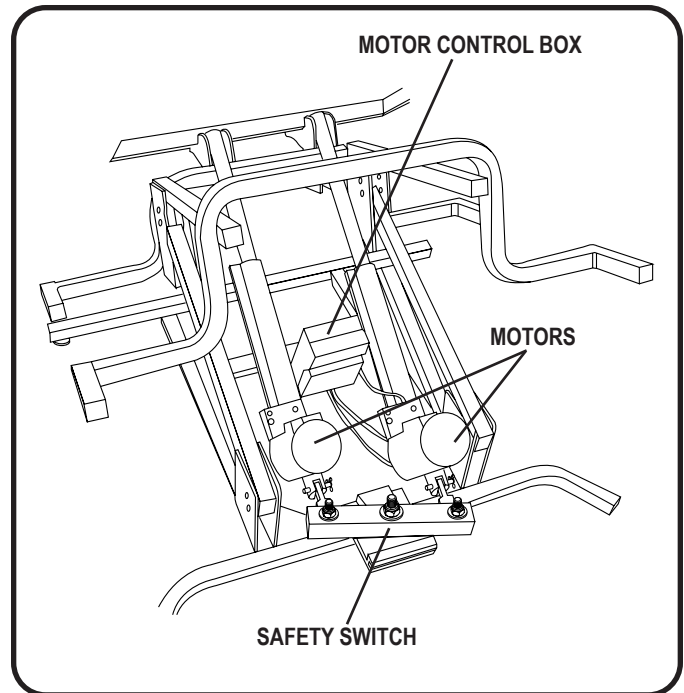

Figure 5.1 Out-of-sync Motors
1. Activate the hand control on the lift chair. If there is no movement in either direction, check if the motors are out of sync and that the pressure-sensitive safety switch has been activated. Out-of-sync motors will show one motor extended farther than the other and a pinched safety switch (**Fig. 5.1**).